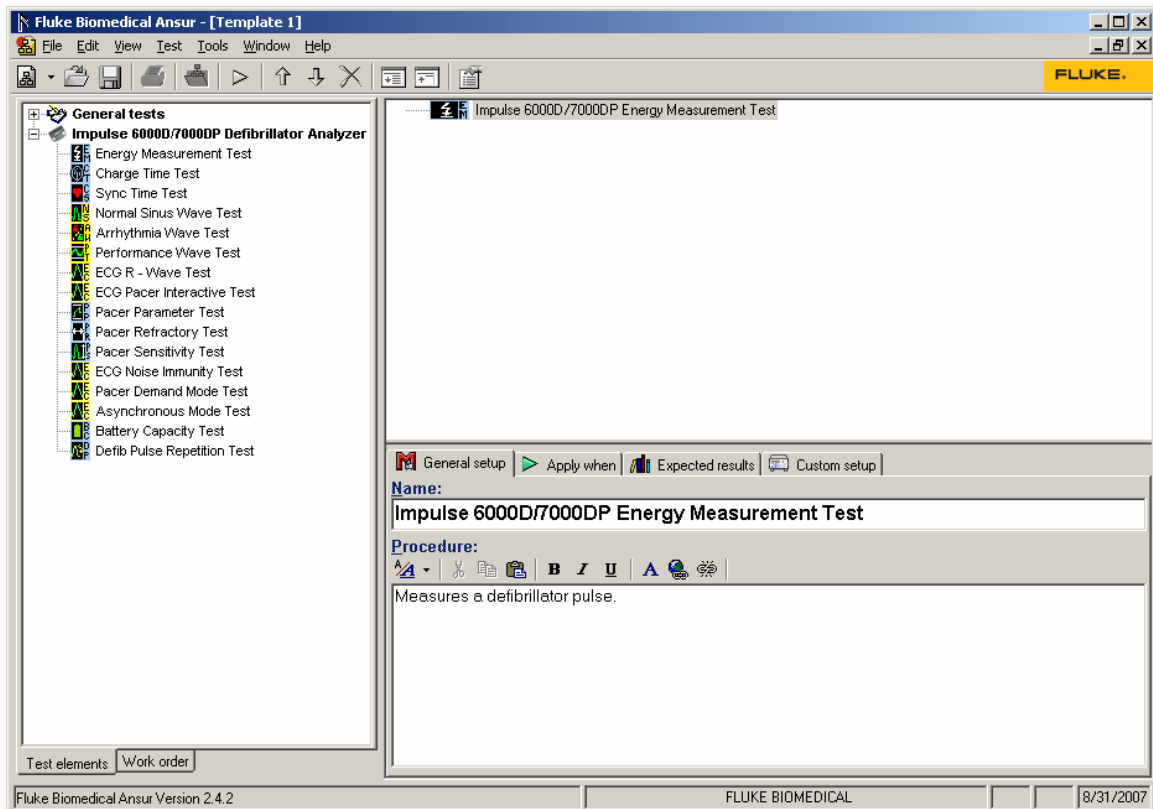

Figure 4-1. Test Template with Selected Test Element
1. Drag a test element from the **Test Explorer** (left pane) into the **Test Template** (right pane), as displayed in Figure 4-1. Clicking the test element in the **Test Template** highlights the test element and its properties. In this illustration, the highlighted element is the **Impulse 6000D/7000DP Energy Measurement Test**, the first test step to be performed.